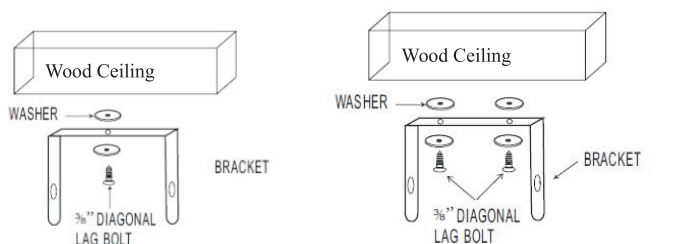

Figure 4a-Single-Screw Mounting
Refer to Figures 4a and 4b.
NOTE: If you want to swivel the heater either to the right or left adding a washer to both sides of the bracket is recommended. A longer lag bolt may be required to properly secure the unit. See Figure 4a.
1. To turn the unit when it has been installed with a single lag bolt (as shown in figure 4a), simply turn the entire heater as needed. The unit cannot be turned horizontally if it has been installed with 2 lag bolts.